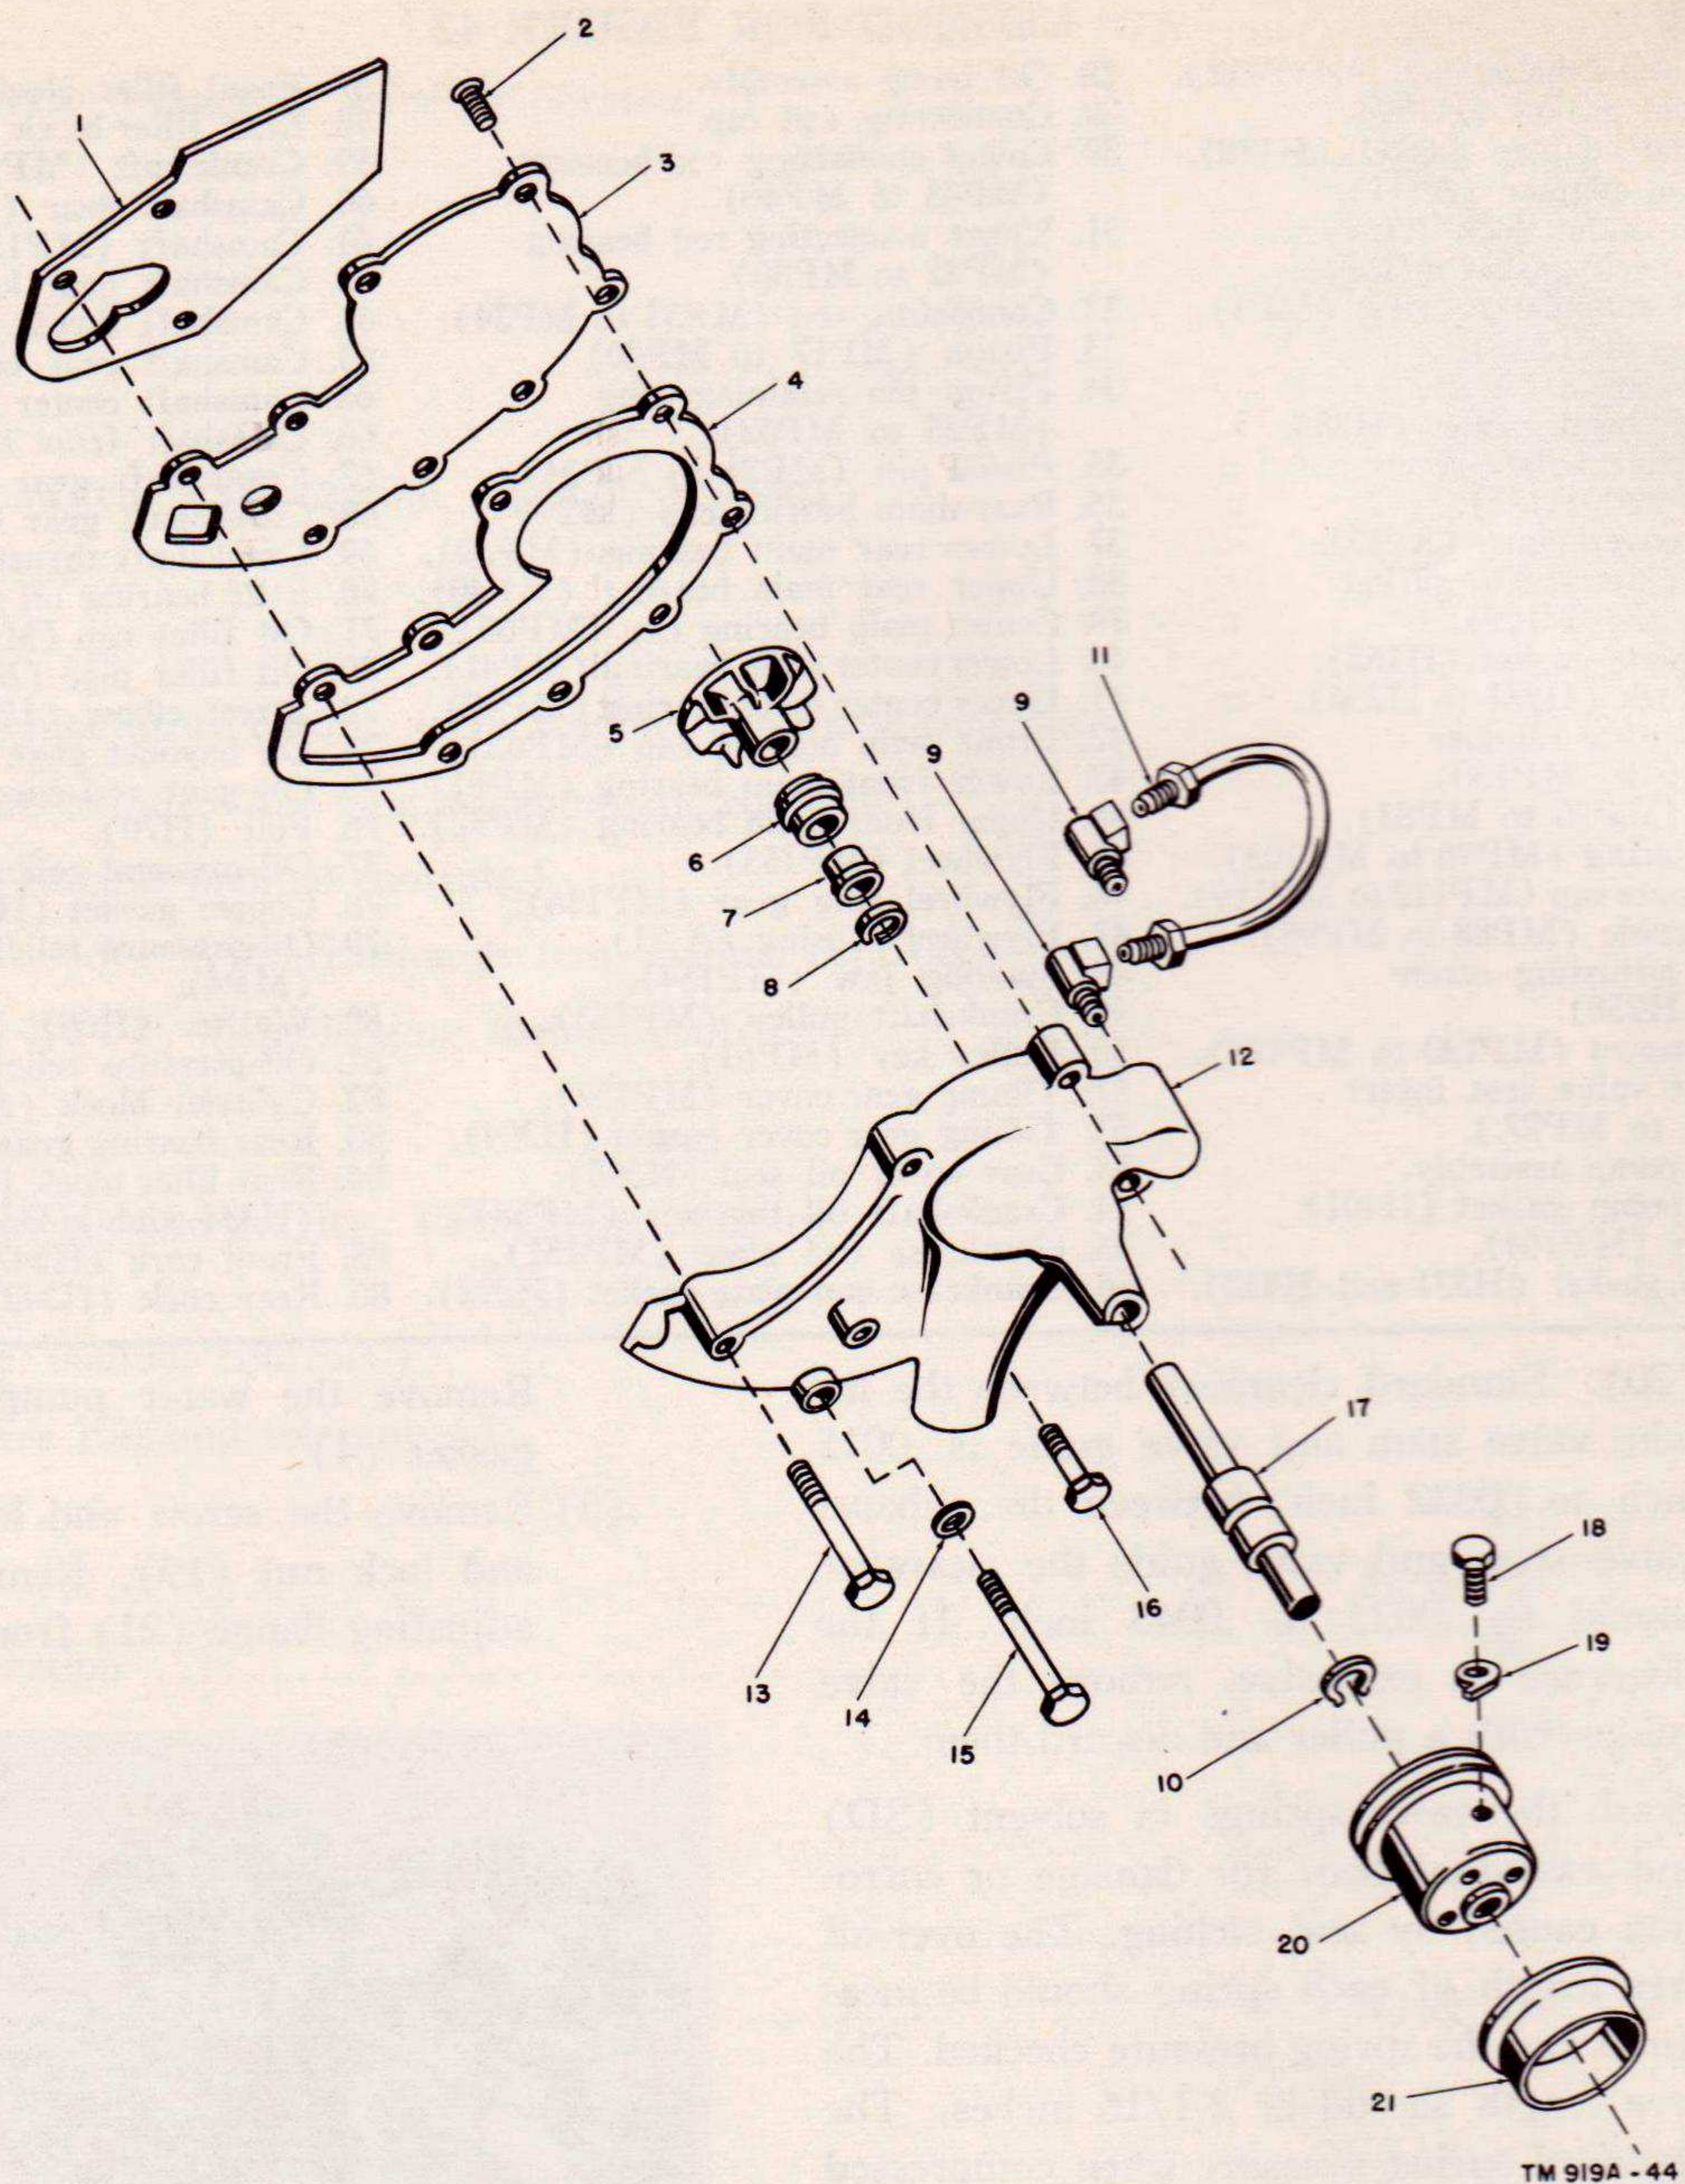

Figure 44. Water pump, exploded view.
- (1) Remove the fan from the fan hub (20, fig. 44) on the water pump.
- (2) Disconnect the recirculating tube assembly (11) at the water pump.
- (4) Remove the attaching screws (2, fig. 44).